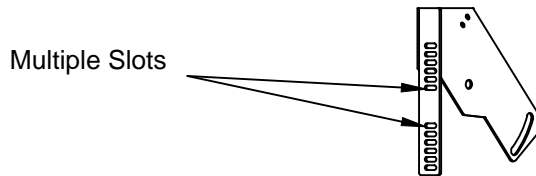

Figure 7: Bracket.
- 3. Bolt** the license plate holder, with the provided four (4) 1/4"x3/4" bolts and 1/4" keps nuts, on the brackets. Use one of the multiple slots to attach the license plate holder in order to get clearance from the liftgate structure. Do not tighten at this time (Figure 7).